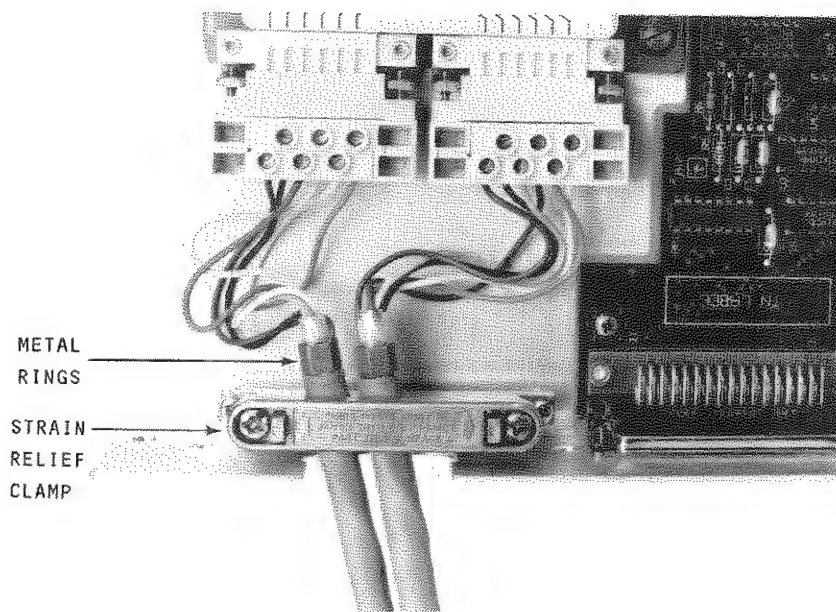

Figure 16. Analog Extender Cable Strain Relief.
- f. The screws on top of connectors J1 and J2 are shipped in the counter clockwise position so wires can be inserted and clamped by tightening the screws. Verify this with a small, flatbladed screwdriver. Figure 16 shows the screw heads in a top view of connectors J1 and J2. Wires from analog extender cables are shown installed. Install the extender cable wires on connectors J1 and J2 by tightening the screws on the inserted wires: brown to CH, black to GU, orange/white pair to one HI/LO bus, and the blue/yellow pair to the other HI/LO bus.
h. Orient the cables in the strain relief as shown in Figure 16 and install the clamp snugly, but not overly tight. Note that the metal ring on the cable assembly is not under the clamp.